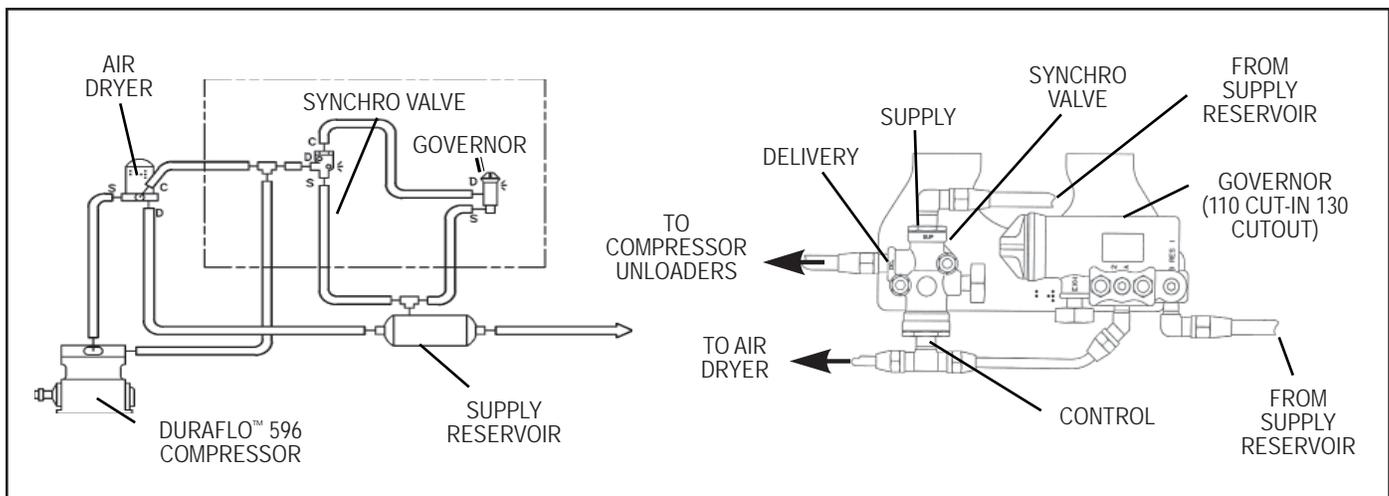

FIGURE 3 - DURAFLO 596™ AIR COMPRESSOR UNLOADER SYSTEM
The compressor is driven by the vehicle engine and functions continuously while the engine is in operation. Actual compression of air is controlled by the compressor unloading mechanism operating in conjunction with a remote mounted governor and synchro valve. Unlike the Tu-Flo® compressor series, the DuraFlo 596™ compressor requires the addition of a synchro valve to assure proper operation and service life. The governor and synchro valve combination maintains brake system air pressure between a preset maximum and minimum pressure level. Refer to Figure 3.
1. Make certain the unloader system contains both the governor and synchro valve as illustrated in Figure 3.